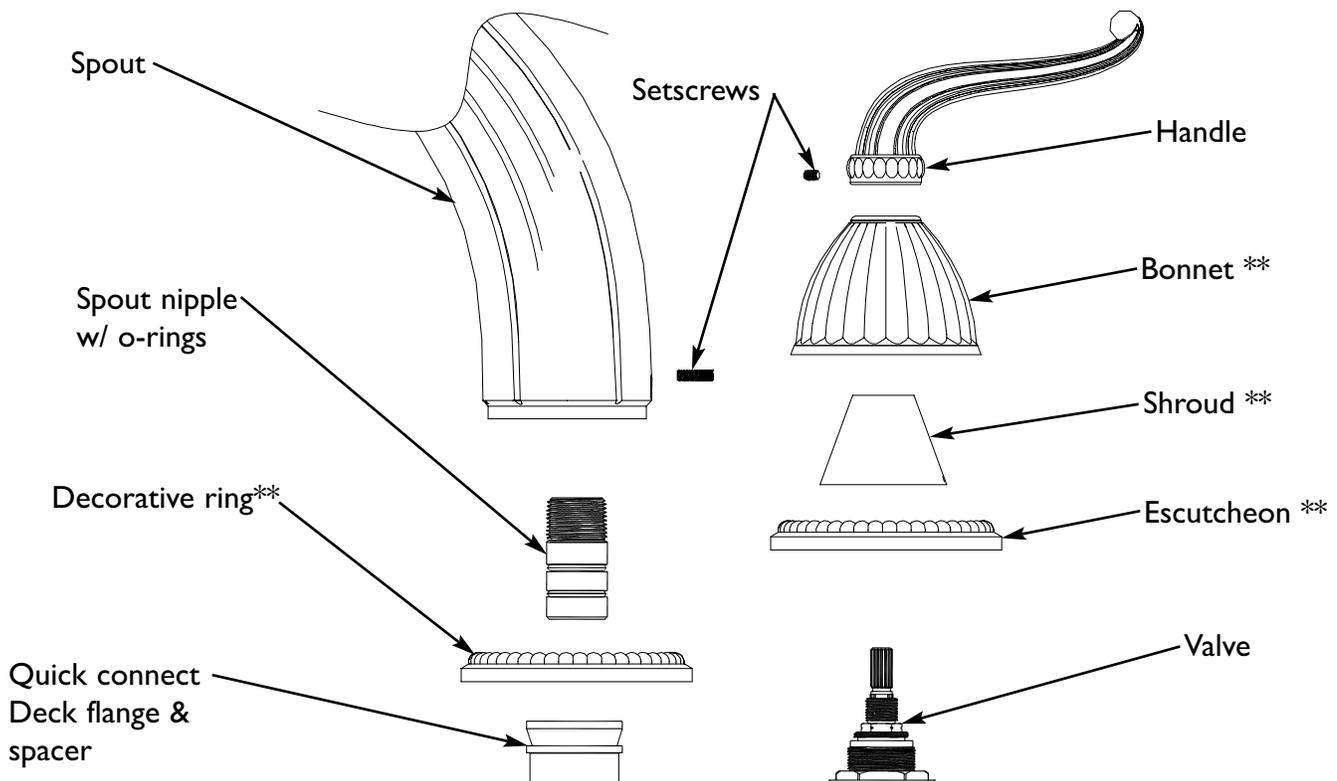

Fig. 3
- Attach handle trim to valve. When possible, any adjustments for rotational alignment should be made to the valve body - not to the cartridge. (Note: Allow minimum spacing between handles and escutcheon/bonnet to prevent damage to the surface finish.) Secure handles into place with setscrew. See Figure 3.
- Apply Teflon tape to spout nipple and install into base of spout. Slide spout nipple into quick connect deck flange (re-grease if necessary). Make sure spout is flush with deck and secure into place with setscrew. See Figure 3.